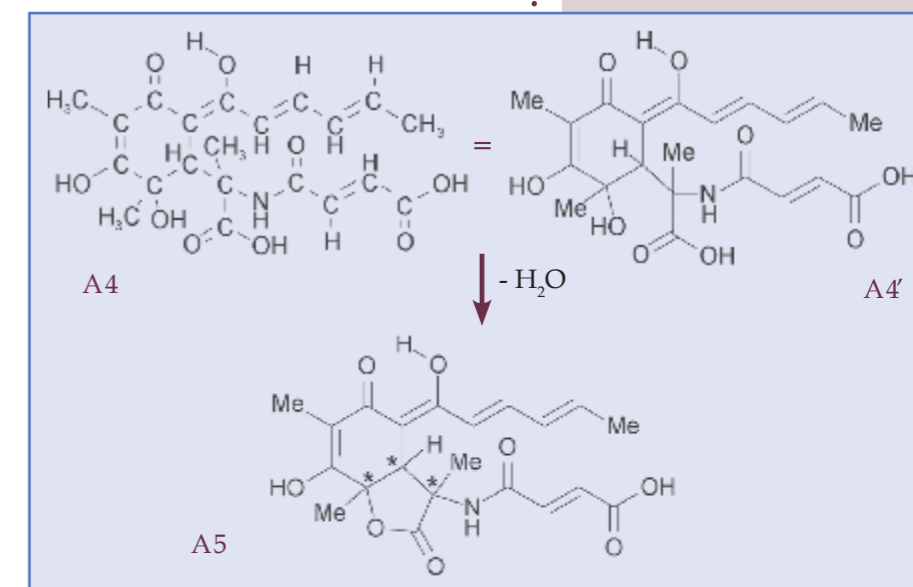

Fig. 5: Illustration of the established still flat structure of the new agent sorbicillactone A
Advanced NMR investigations, using the so-called HMBC method, have the ability to explore proton-carbon correlations across multiple bonds, thus providing information as to which locations on the 6-ring structure (A1) the two side structures (A2 and A3) were connected, and suggested the total structure A4 or, in a clearer notation, A4' (Fig. 5). Here each corner of the hexagon, each point in the zigzag chain, denotes a C atom.
Indeed, the structure was not complete. Again mass spectrometry was used clearly demonstrating that the actual structure of the new natural product had to be lighter than the postulated structure A4, namely be 18 mass units. 18 is exactly the mass of a molecule of water. Thus the actual natural product is characterized by the loss of an H_2O molecule, and the formation of a consecutive additional 5-membered ring with an integrated oxygen (O), a lactone ring. (Fig. 5, A5). This
However, is the **A5** structure now totally complete? Hardly, because the molecule really can't be as flat as depicted in Fig. 5. In particular the three carbon atoms highlighted with a * have their four partners arranged in four different directions in space, corresponding to a tetrahedron. This raises a question: in which directions in space are the two methyl groups (Me) and the hydrogen (H) located at the 6-5-ring system pointing? Upwards or downwards? Or verbalized in the language of the chemist: